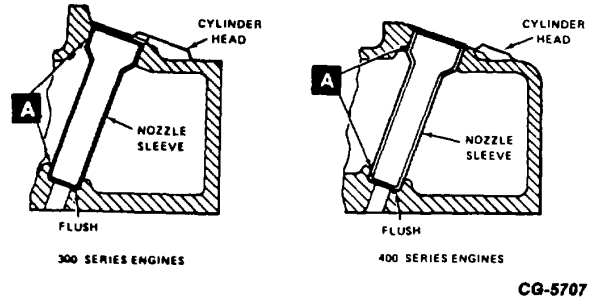
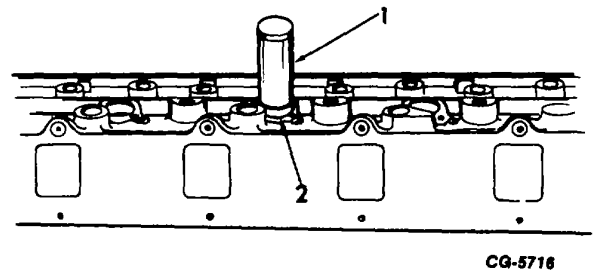

Figure 22. - Nozzle Sleeve Contact Points (Installed View)
Figure 23. - Nozzle Installing Tool Placement
1. After cleaning bore, apply locite 262 to upper contact surface of sleeve (A) as shown in Fig. 22.
2. Place nozzle sleeve (2, Fig. 23) in cylinder head bore. Position installing tool (1) in sleeve as shown in Fig. 22. Keep tool centered and tap squarely with brass hammer until sleeve is bottomed in bore. (See Tool List for tool number).